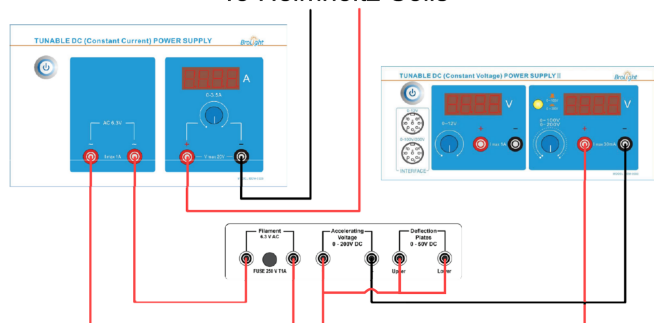

Figure 3. Setup for establishing the electron beam.
5. Connect a wire between the ports for the upper and lower deflection plates. (See Figure 3.)
6. Connect a wire between the **Accelerating Voltage** positive terminal and the **Deflection Plates** Upper terminal, as shown in Figure 3, to make the electron beam appear.